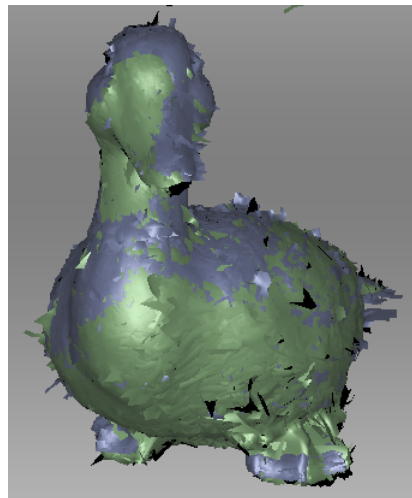

Figure 124: "Drag" alignment result
3. To confirm the alignment, release the mouse button(s) and the **Shift** key, then click *Apply*. Note carefully that any scans you are registering won't automatically move to the registered set  (see Figure 124). You can do so manually as the Changing Object Status describes.